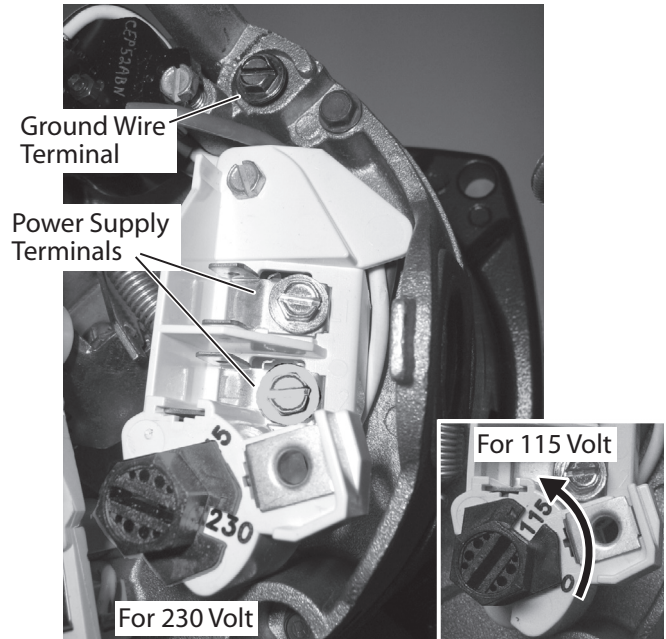

Figure 4: Voltage set to 230 volts, Dial Type; turn dial to select 115 volts.
Your motor terminal board (located under the motor end cover) should look like Figure 4.
- Step 7. Connect current carrying conductors to terminals L1 and L2 under motor canopy. When replacing motor, check wiring diagram on motor nameplate against Figure 4. If the motor wiring diagram does not match the diagram, follow the diagram on the motor.
- IMPORTANT:** 115/230 Volt single phase models are shipped from factory with motor wired for 230 volts. If power supply is 115 volts, remove motor canopy and change switch dial on motor as shown in Figure 4. Do not try to run motor as received on 115 volt current.